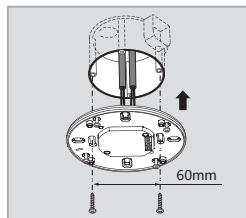

FIG.9
- Fix the power box into European standard junction box with 2pcs screws (See FIG.9).